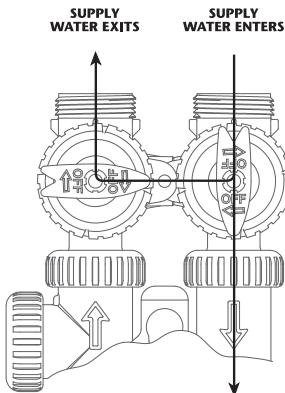

Figure 3
- DIAGNOSTIC POSITION:** The inlet handle points toward the control valve and the outlet handle points to the center of bypass valve. Untreated supply water is allowed to flow to the system and to the building, while not allowing water to exit from the system to the building (**Fig. 3**). This allows the service technician to draw brine and perform other tests without the test water going to the building.